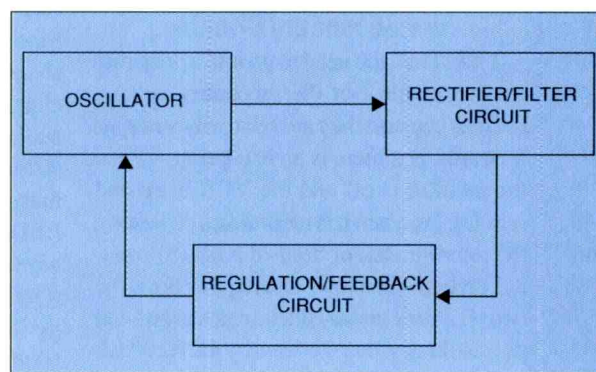

Figure 1
These switch mode power supplies, like others, have three basic elements: (1) the oscillator, (2) rectifier-filtering, and (3) regulation-feedback (Figure 1). The oscillator consists of a switching transistor, a transformer, a means of frequency control, and a "kickback" circuit. The rectifier-filtering circuits are made up of